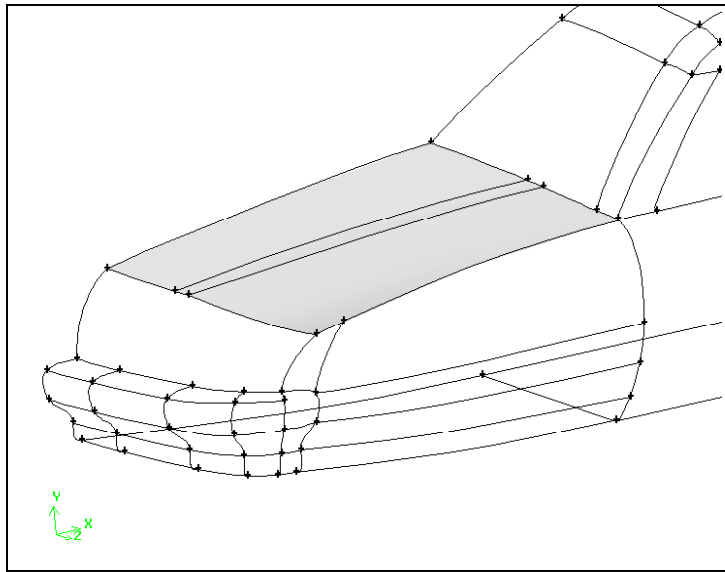

Figure 5-9: Three faces on hood of sedan
- c) Select the three faces on the top of the hood as shown in Figure 5-9.